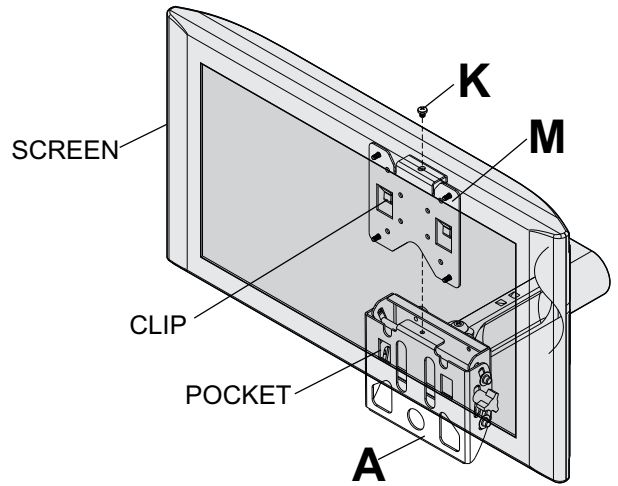
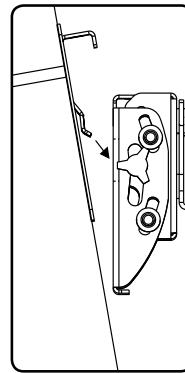
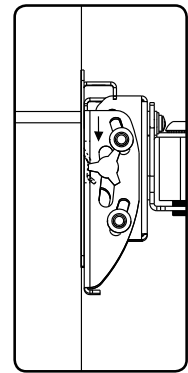

fig. 3.3
fig. 3.1
fig. 3.2
3 To attach screen to wall mount (A), lower hook bracket (M) with screen at an angle into pockets of wall mount as shown in figure 3.1. Once clips are engaged, push down to seat clips in pockets as shown in figure 3.2. Insert and tighten M5 phillips screw (K) to lock screen to wall mount as shown in figure 3.3.